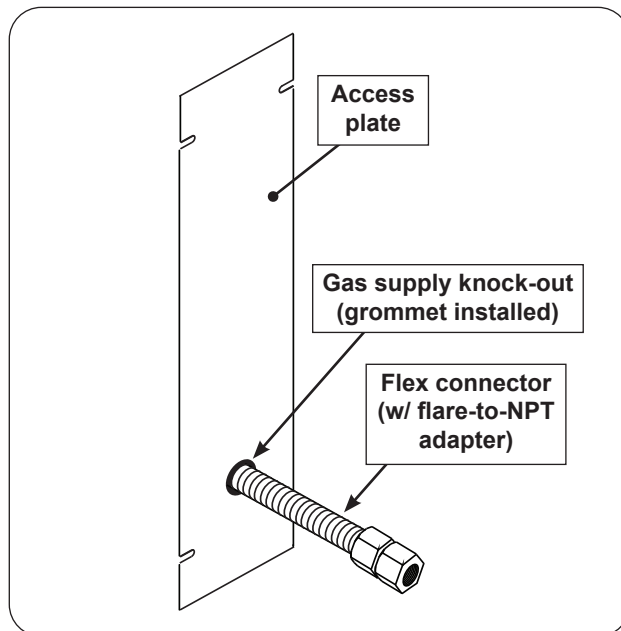

Fig. 25-1 Access plate view & install orientation
2. Remove the plastic grommet (attached to the flex connector) and insert it into the newly created opening. Then route the flex connector through the opening. See Fig. 25-1 and 25-2.